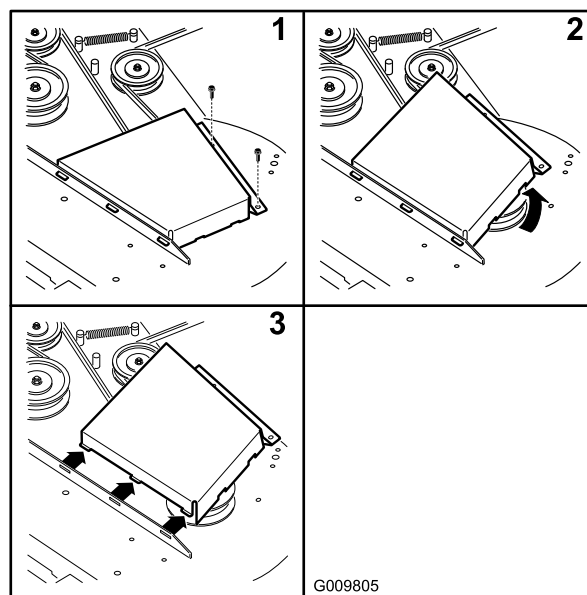

Figure 63
- Remove the belt covers (Figure 63).